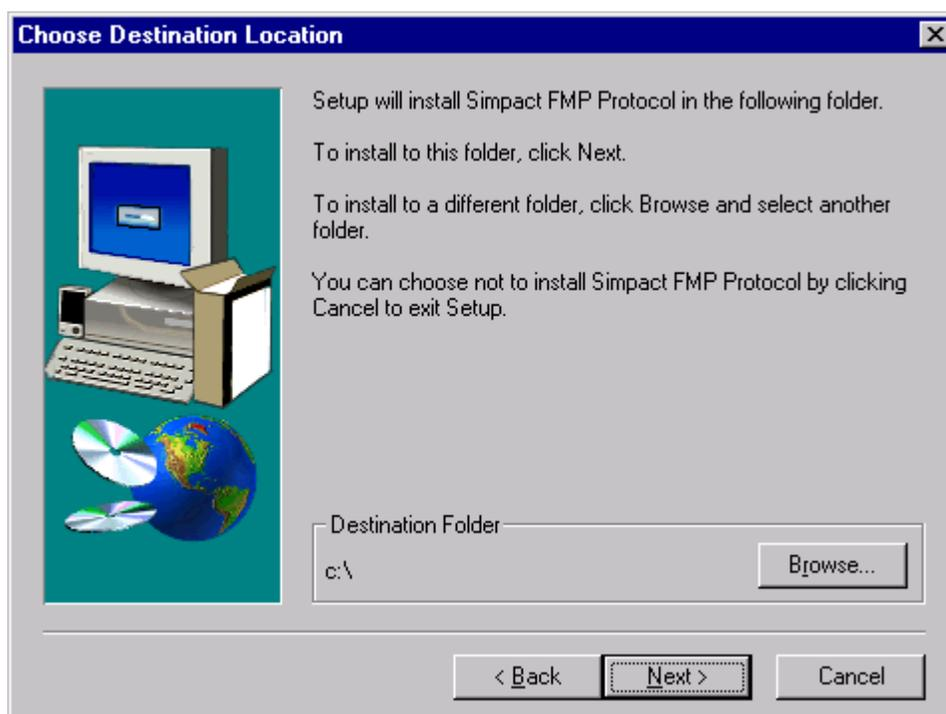

Figure 2–6: Installation Directory for FMP
Step 3: The installation script prompts for an installation directory in which to install the distribution software (Figure 2–6). The default directory is C:\. All system files are installed in the Windows NT system home directory (for example, C:\WinNT\system32). If the default directory is acceptable, click Next. To install the software in a different directory, click Browse.